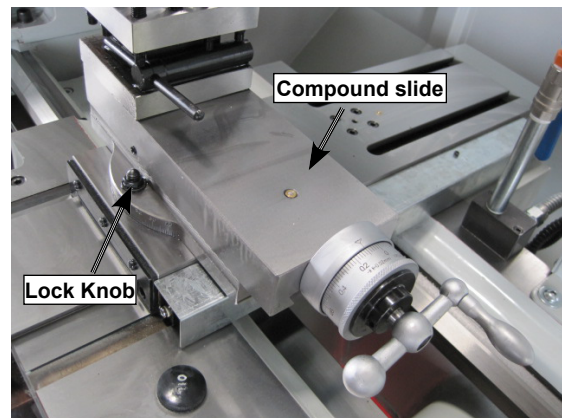

Figure 38. Compound slide set at an angle.
1. Loosen the two hex nuts at the base of the compound slide (1 of 2 shown in Figure 38).